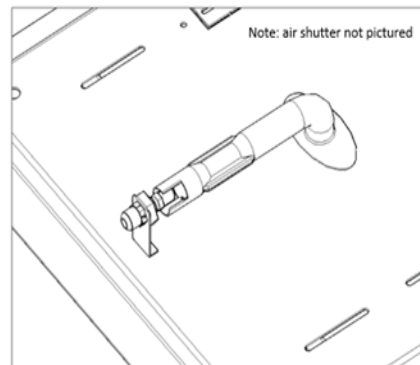

FIGURE 6
- iii. Reinstall the flared fitting with the natural gas orifice. Secure flared fitting to the bracket with the locknut. **Figure 6**